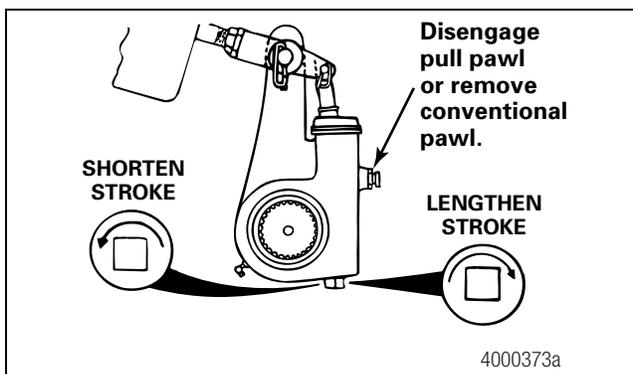

Figure 7.11
- If the free stroke measurement is not within specification: Turn the adjusting nut COUNTERCLOCKWISE 1/8 turn to adjust the free stroke. Figure 7.11. Follow the steps above to check the free stroke again, until the measurement is within specification.